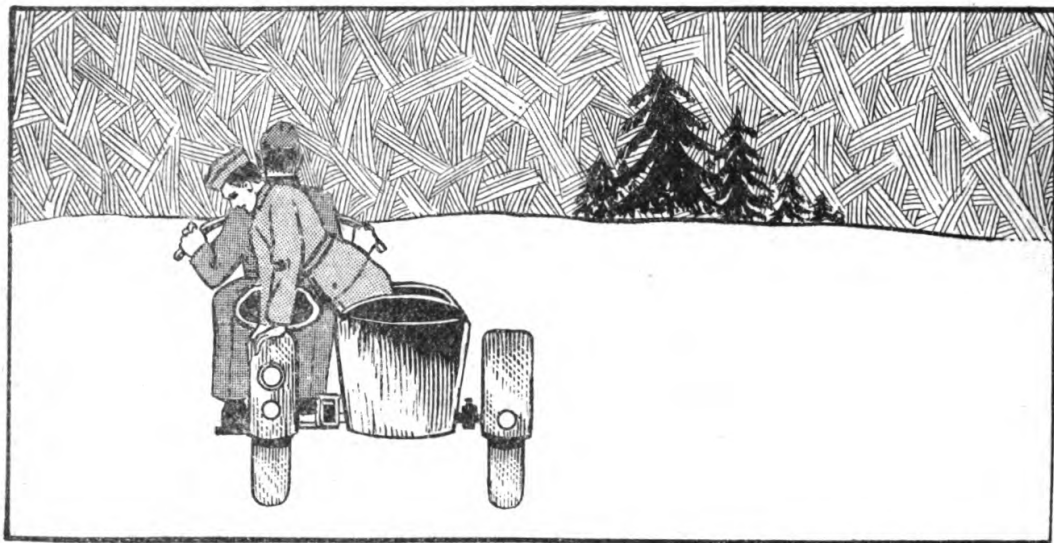

FIGURE 12.—Increasing traction on the driving wheel.
**25. Gaining extra traction.**—If the rear wheel spins on snow, mud, or grass while accelerating, extra traction can easily be secured by sliding off the saddle onto the rear fender. If the vehicle has a side-car, ask the passenger to sit up on the back of the side-car seat or lean over on the rear fender of the motorcycle as shown in figure 12. This extra load on the rear wheel will increase the traction.